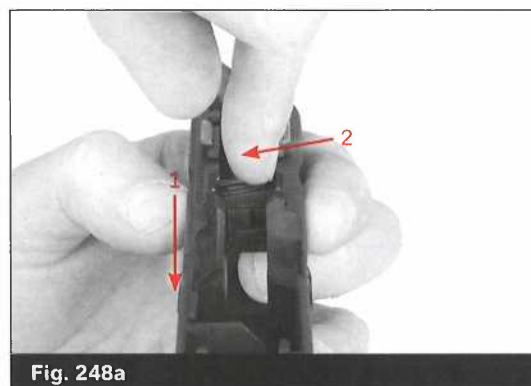

Fig. 248a
- Press the slide lock down on one side with your finger. (Fig. 248a)